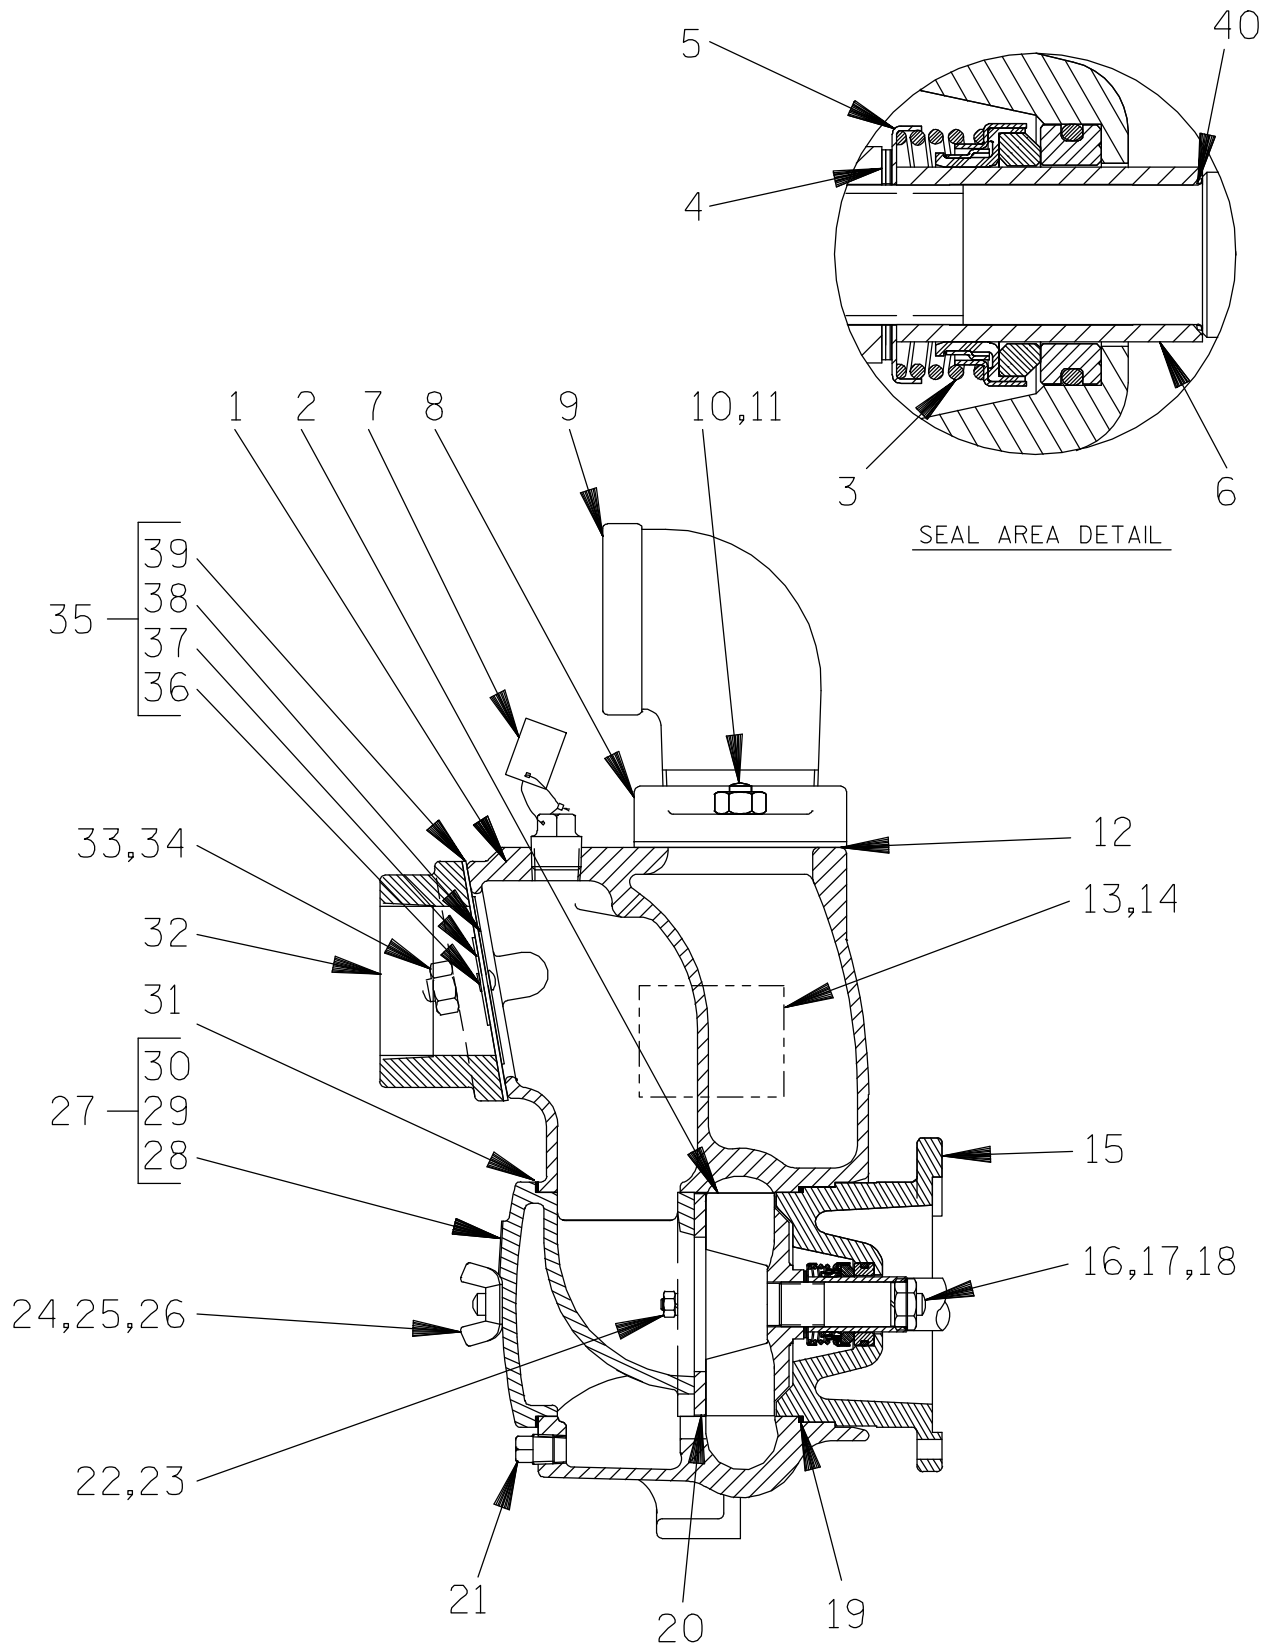

Figure 3. 13D1-(L70) Pump Parts Only
(Figure 3)
(Figure 3 and 4)
plied with a new seal will not work for this application. Discard the spring centering washer supplied with the seal and use the washer supplied with the pump (item 5, Figure 3) or replace it with a new one.
To ease installation of the seal, lubricate the O-rings, sleeve and bellows with water or a very **small** amount of oil, and apply a drop of light lubricating oil on the finished faces. Assemble the seal as follows (see Figure 3).